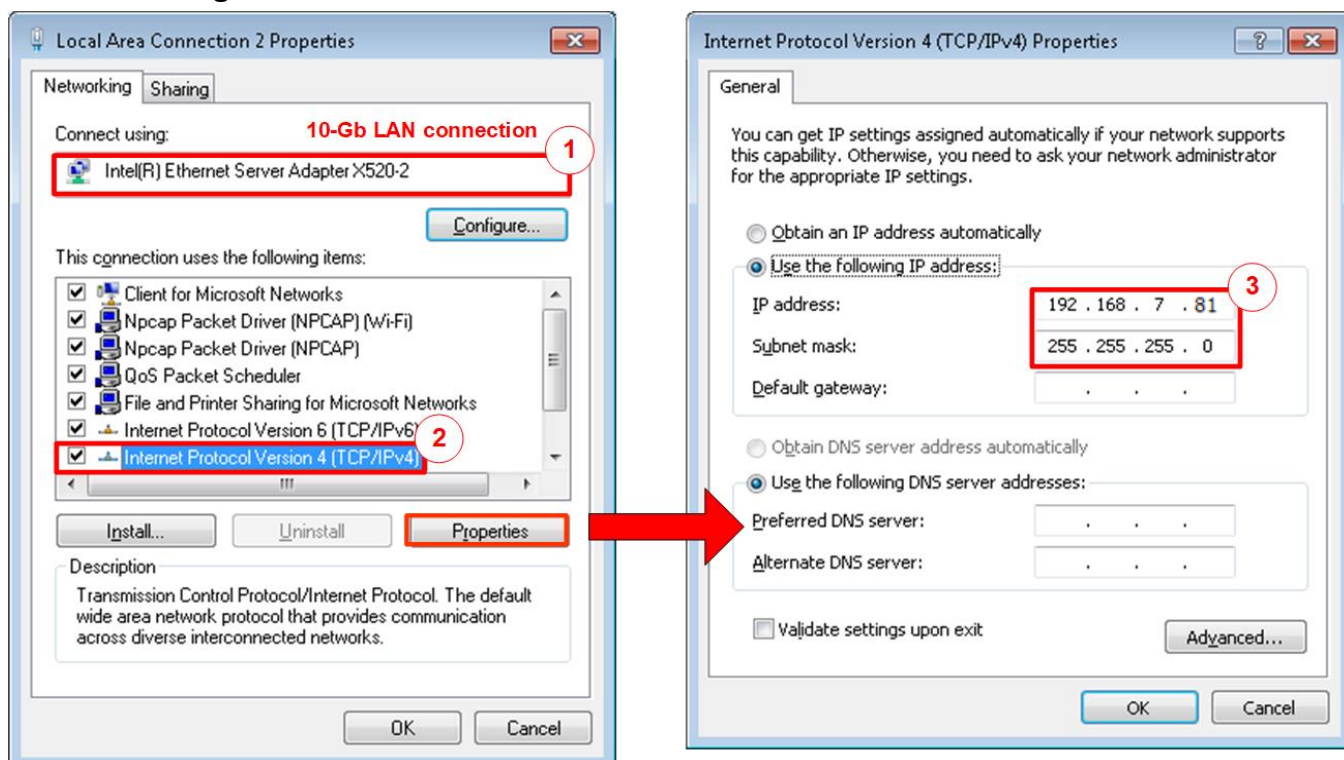

Figure 2-1 Setting IP address for PC
- 1) Open Local Area Connection Properties of 10Gb connection, as shown in the left window of Figure 2-1.
- 3) Set IP address = 192.168.7.81 and Subnet mask = 255.255.255.0, as shown in the right window of Figure 2-1.